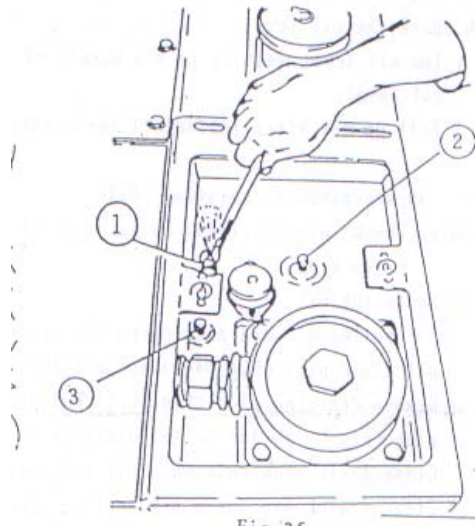
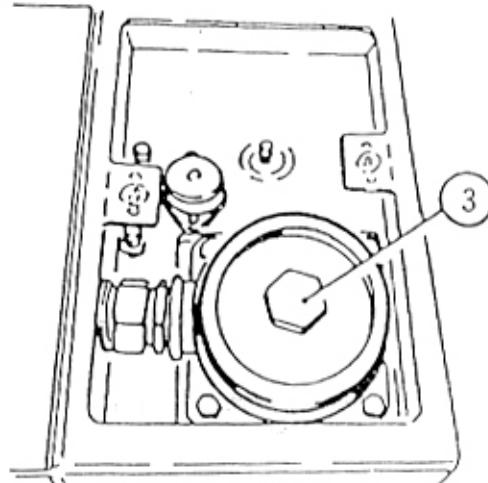
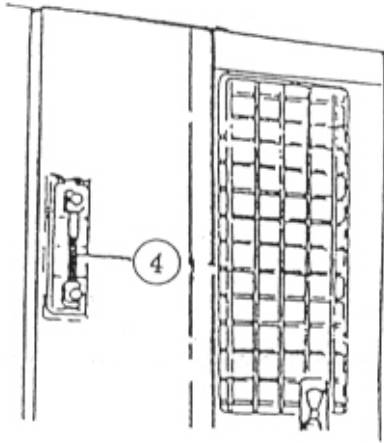

Fig.35
Fig.37
Fig.38
2. Remove rubber cap from the bleed valve (Fig 35/1)
3. Bleed the tand (Fig.35)
6. Open the filter cover (Fig 37/3) and fill with prescribed hydraulic oil up to the middle of the sight glass (Fig 38/4)
7. Refit the filter cover (Fig .37/3) and shut the bleeding valve (Fig. 35/1)
10. Fill up oil to the middle of the sight glass If necessary, at the filter opening (Fig 38/4)
- Screw in filter cover (Fig 38/3) carefully in order to avoid damage of the fine thread.
1. The oil level must be in the middle of the sight glass (Fig 38/4) with the engine stopped and working implements on the ground.
1. Take off rubber cap on exhausting valve (Fig 35/2 or 35/3)